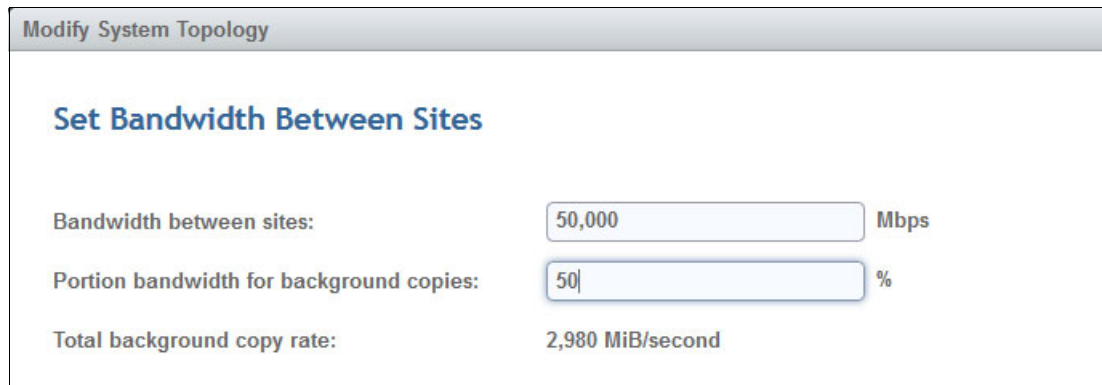

Figure 11-18 Bandwidth settings
7. The Storwize V7000 will be used as quorum device at the third site. Set the bandwidth limits between sites (Figure 11-18).